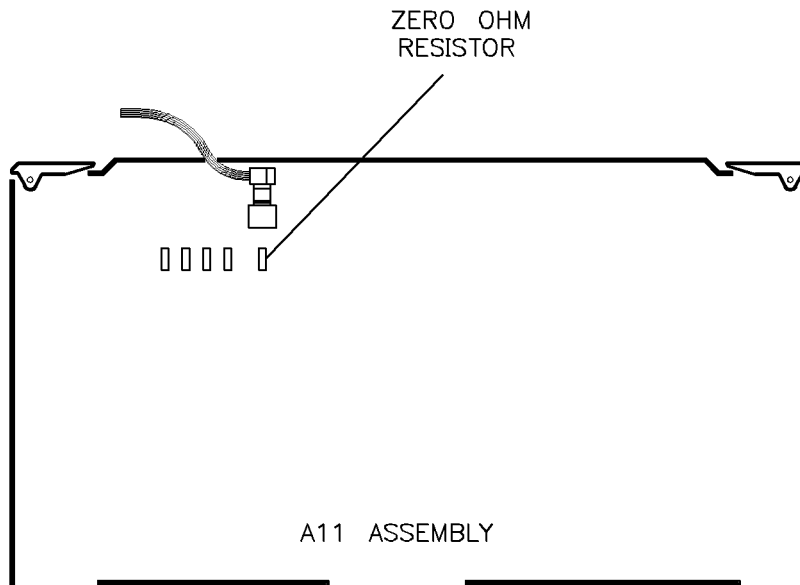

Figure 3-38. FM Input Impedance Jumper Locations
4. Locate the zero ohm resistor shown in Figure 3-38. The FM input impedance is factory-set to the 50 ohm position. To change it to 600 ohms, remove the resistor from the A11 assembly by unsoldering it. The FM input impedance can be reset to 50 ohms by soldering the resistor back into the A11 assembly.